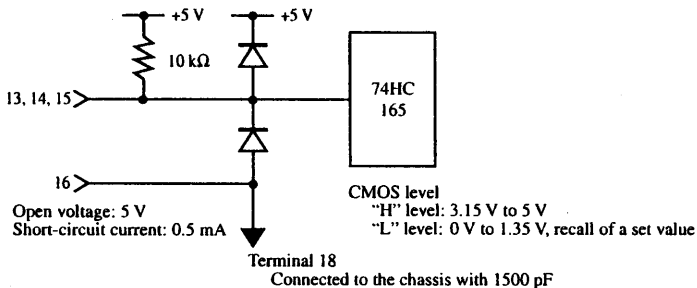

Fig. 4-10 Equivalent circuit
**DESCRIPTION** • Fig. 4-10 shows the equivalent circuit of terminals 13, 14, and 15 on the J1 terminal board.